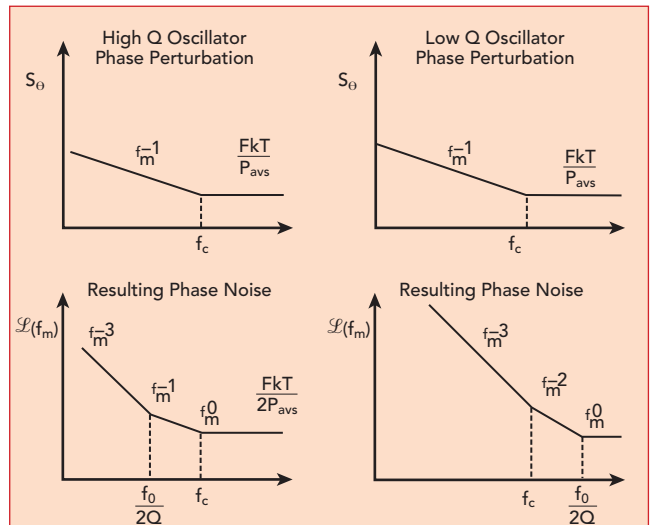

Fig. 3 Equivalent feedback models of oscillator phase noise.^{3,8}
Equation (3) is shown graphically in **Figure 3**. The problem is that necessary data, like output power, large signal noise figure, loaded Q and flicker noise are not known a priori. The other problem is that it does not provide the actual noise contribution of the semiconductor devices. It is shown below that the phase noise contribution of the tuning diode in VCOs is the critical part, and not the transistor itself. The fixed frequency oscillator is the best phase noise case.